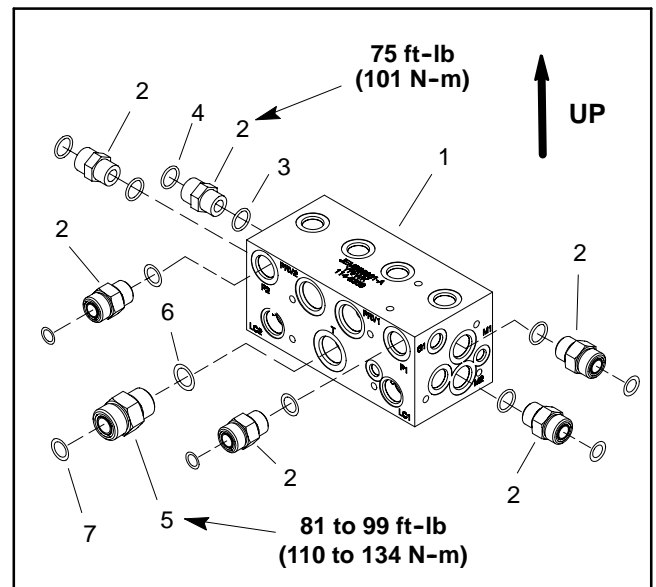

Figure 80
9. Remove three (3) flange head screws that secure manifold to machine frame.
11. If necessary, remove hydraulic fittings from manifold (Fig. 80). Discard any removed O-rings.
1. If fittings were removed from deck control manifold, lubricate and place new O-rings on fittings (Fig. 80). Install fittings into manifold (see Hydraulic Fitting Installation in the General Information section of this chapter). Torque fittings to values identified in Figure 80.
2. Position deck control manifold to frame. Install three (3) flange head screws but do not fully tighten.
5. Secure hydraulic manifold to frame by tightening three (3) flange head screws.